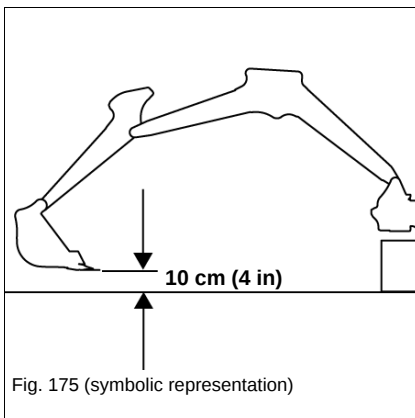

Fig. 175 (symbolic representation)
5. Position the boom as shown in Fig. 175.